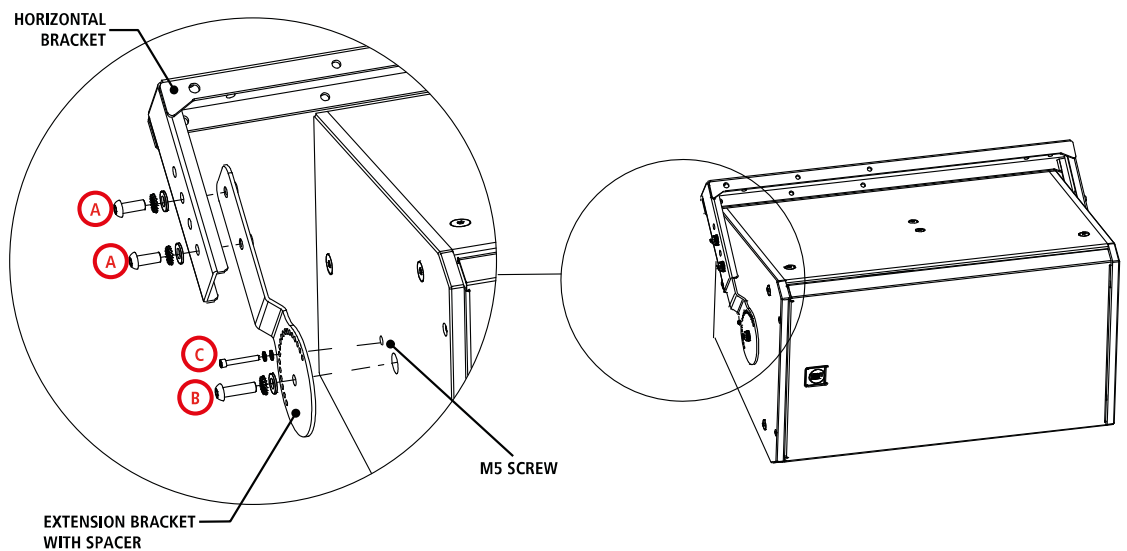

Fig. 2
2. Fix the extension to the bracket by screwing the 2 M10x25 screws **A**, with 1 flat washer and 1 toothed washer each (Fig. 2).
5. Tighten the central M10x40 screw (or M8x45 for H-BR 004 and H-BR 005) **B** into the threaded hole on speaker's top and bottom, with 1 flat washer and 1 toothed washer each (Fig. 2).